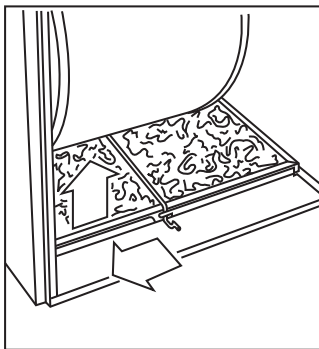

Fig. 11 - Release Filter Retaining Rod (Bottom Inlet)
- a. Slide filter retainer sideways until it is free of latch. See Fig. 11.